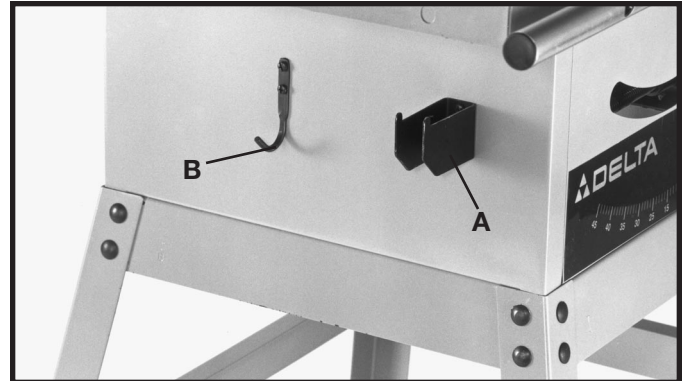

Fig. 33
Assemble the miter gage holder bracket (A) Fig. 33, and the wrench holder bracket (B) to the left side of the saw cabinet, as shown, using four M5x12mm sheet metal screws and two M5 lockwashers.